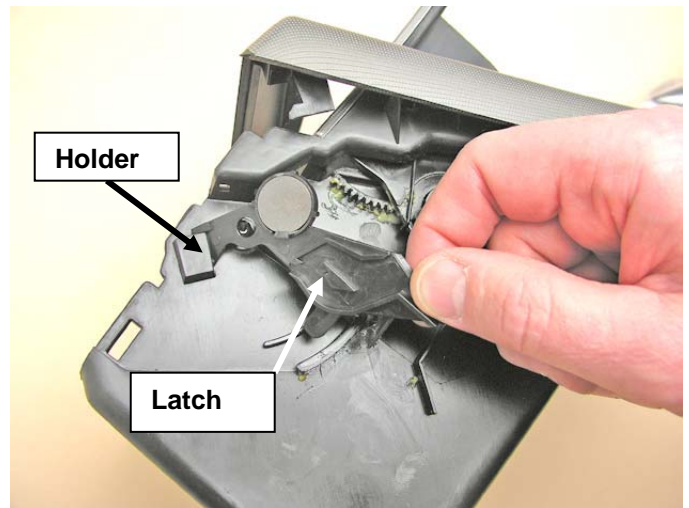

Figure 3
- a. First, insert the top of the Latch into the Holder and over the Pivot Pin on the LH side of the Center Console Finisher (see Figure 3).